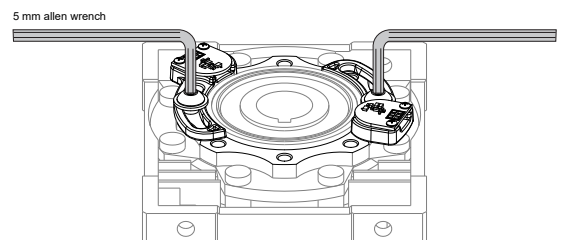

Figure 21. Loosen the Limit Sensor Bracket Bolts
2. Loosen limit sensor bracket screws with a 5 mm allen wrench (Figure 21).